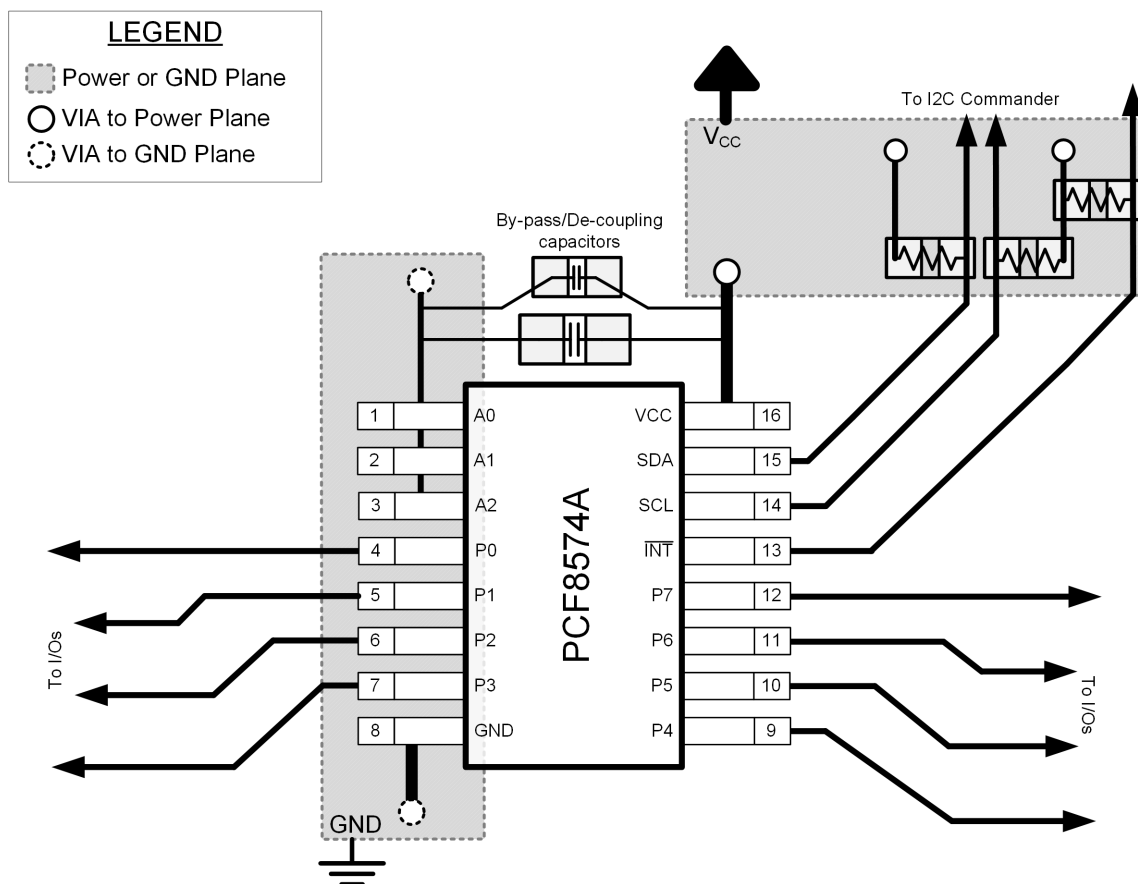

Figure 11-1. Layout Example for PCF8574A
When the I/Os are used to control LEDs, normally they are connected to  $V_{CC}$  through a resistor as shown in Figure 11-1. For a P-port configured as an input,  $I_{CC}$  increases as  $V_I$  becomes lower than  $V_{CC}$ . The LED is a diode, with threshold voltage  $V_T$ , and when a P-port is configured as an input the LED will be off but  $V_I$  is a  $V_T$  drop below  $V_{CC}$ .
In all PCB layouts, it is a best practice to avoid right angles in signal traces, to fan out signal traces away from each other upon leaving the vicinity of an integrated circuit (IC), and to use thicker trace widths to carry higher amounts of current that commonly pass through power and ground traces. By-pass and de-coupling capacitors are commonly used to control the voltage on the  $V_{CC}$  pin, using a larger capacitor to provide additional power in the event of a short power supply glitch and a smaller capacitor to filter out high-frequency ripple. These capacitors should be placed as close to the PCF8574A device as possible. These best practices are shown in Figure 11-1.
For the layout example provided in Figure 11-1, it would be possible to fabricate a PCB with only 2 layers by using the top layer for signal routing and the bottom layer as a split plane for power ( $V_{CC}$ ) and ground (GND). However, a 4 layer board is preferable for boards with higher density signal routing. On a 4 layer PCB, it is common to route signals on the top and bottom layer, dedicate one internal layer to a ground plane, and dedicate the other internal layer to a power plane. In a board layout using planes or split planes for power and ground, vias are placed directly next to the surface mount component pad which needs to attach to  $V_{CC}$  or GND and the via is connected electrically to the internal layer or the other side of the board. Vias are also used when a signal trace needs to be routed to the opposite side of the board, but this technique is not demonstrated in Figure 11-1.